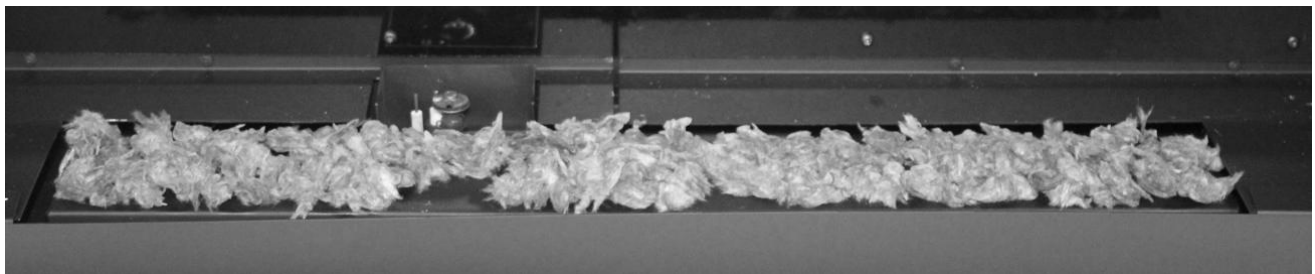

Figure 37 - Placement of Rock Wool on Burner
2. Distribute one layer of rock wool to cover the entire burner (See Figure 37).